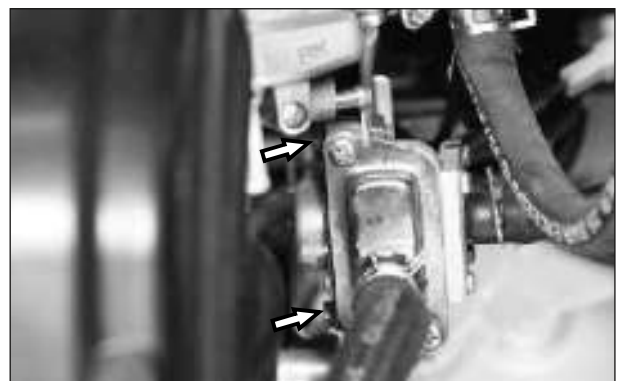

Fig. 4.39
- Remove the 2 hexagonal flange bolt (M6X20 - 2 nos.) from the mounting of secondary air injection valve and take out the secondary air injection valve.(Fig. 4.39)